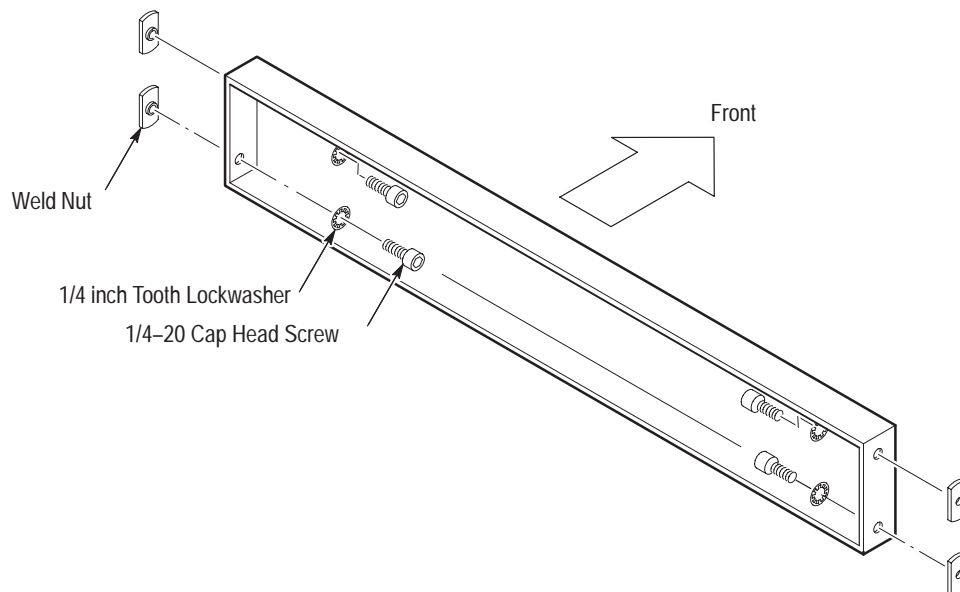

Figure 3: Preparing the Strut for Base Assembly
1. Prepare the strut as shown in Figure 3. Position the weld nut with the raised threaded flange toward the strut. *Leave each screw assembly loose; do not screw the weld nut onto the cap head screw more than one full turn.*